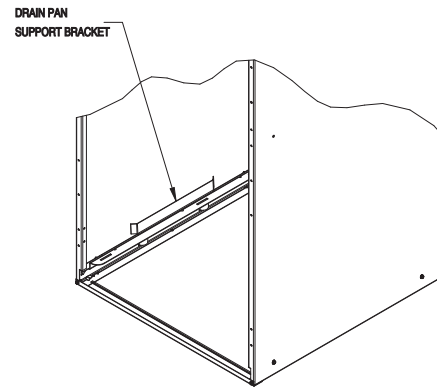

Fig. 6 - Drain Pan Support Bracket
5. Remove horizontal drain pan support bracket from coil support rail on left side of unit and reinstall on coil support rail on right side of unit. (See Fig. 6.)